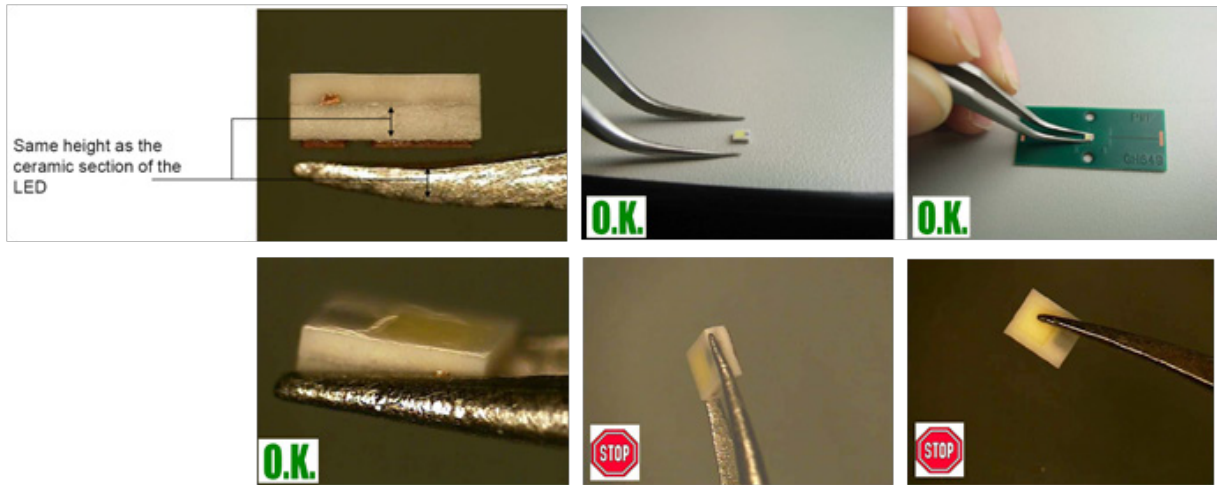

Figure 4. Tweezers handling.
- For manual handling with tweezers, always pick up from the sides of the ceramic substrate and never from the sides of the silicone overcoat. An "L" shaped tweezers (e.g. Knipex precision tweezers 923229) with the pointed tip in parallel to the LED's ceramics is more appropriate and easier to use than "straight" tweezers. To reduce the chance of any damage to the LED part and provide stability during pick up and manual placement on the board, it is recommended that the thickness height of the tweezers tip and the thickness of the ceramic sides are the same (0.4mm) as shown in Figure 4.